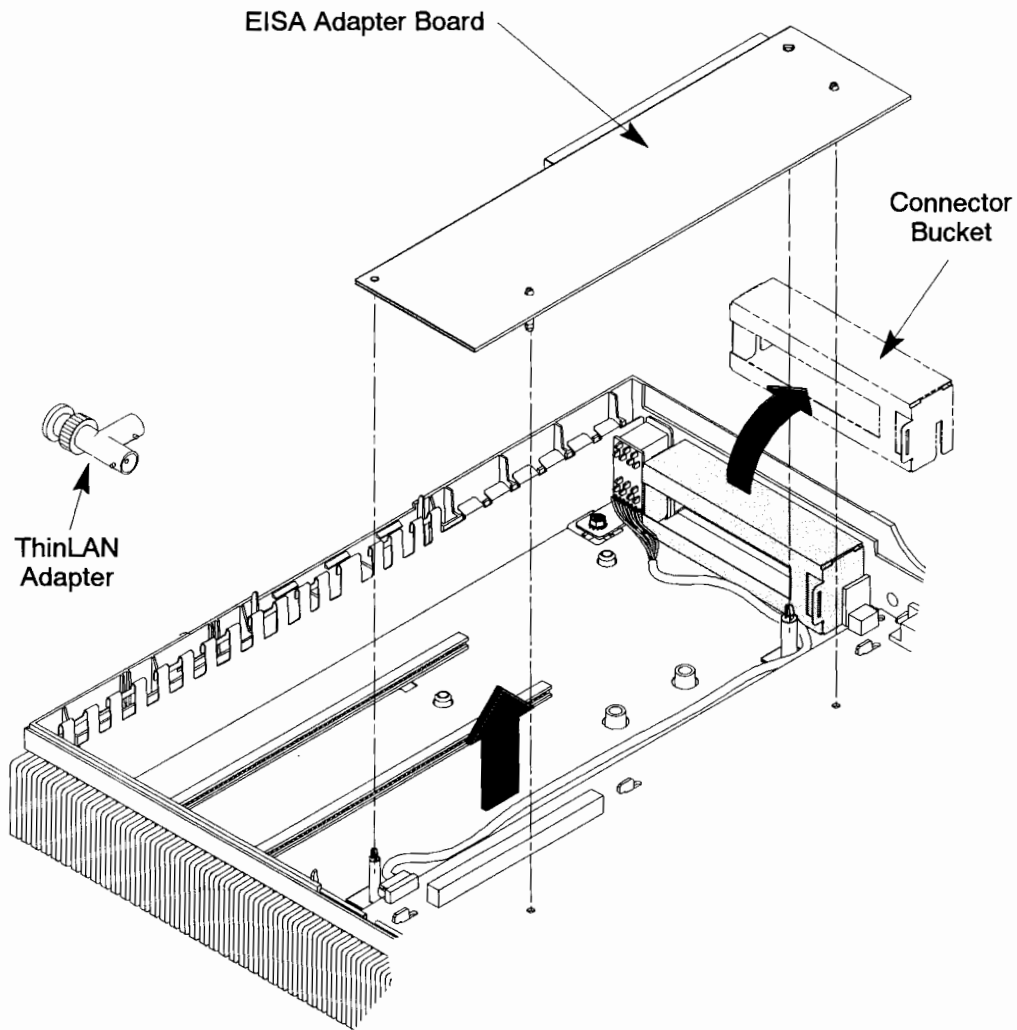

Figure B-47. Removing EISA Option Components
- 3.** Remove the EISA adapter board, EISA ThinLAN adapter, and connector bucket from the system unit, as shown in Figure B-47.